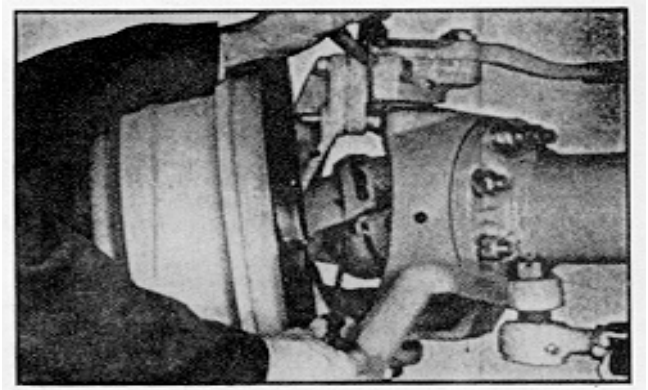
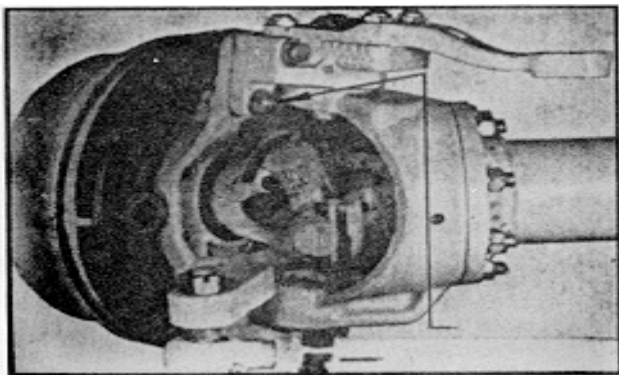
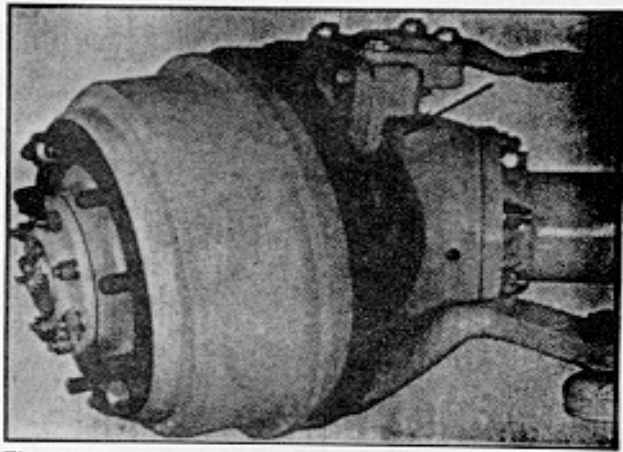

Fig. 8
Fig. 7
Fig. 9
3. The steering stop is the lower rear, upper kingpin bracket mounting bolt (See fig. 7). Adjustment is made by the installation of a number of washers under this bolt's head (See fig. 8). The purpose of the stop is to protect the universal joint and the brake chamber from hitting another part in a full turn of the steering.
4. Turn the steering to put the axle first in the full left turn condition. (See fig. 9). The head of the stop bolt should stop the turn before any of the rotating parts in the left hand steerable drive end interferes with another part. The brake chamber on the right end should not hit the suspension yoke. Turn the steering to the right and check the corresponding conditions (See figs. 8 and 10).